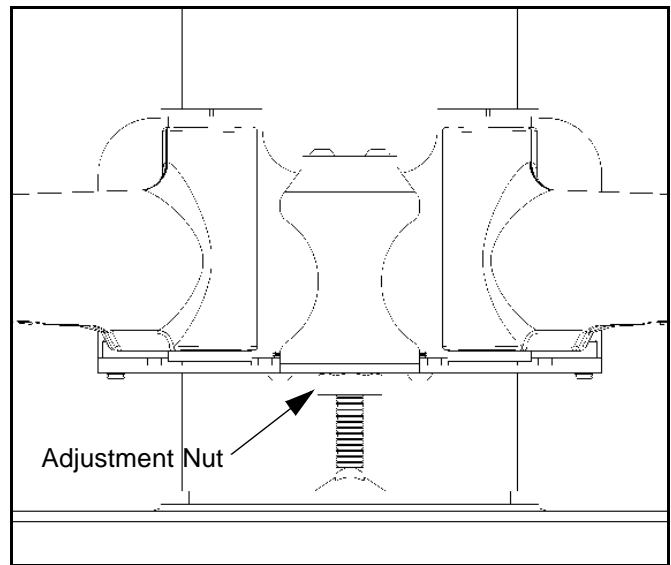

Figure 4
1. Check PNR for the desired height. If needed, use the adjustment wrench (40) to adjust the PNR height.
- Turn adjustment nut (see Figure 4) clockwise (CW) to lower the unit height,